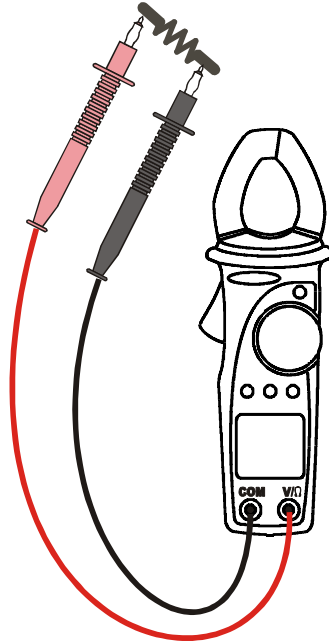

Fig. 9: use of clamp for continuity measure
2. Insert the test leads into the jacks, the red lead into V/Ω jack, and black lead into COM jack, as shown in Fig. 9.